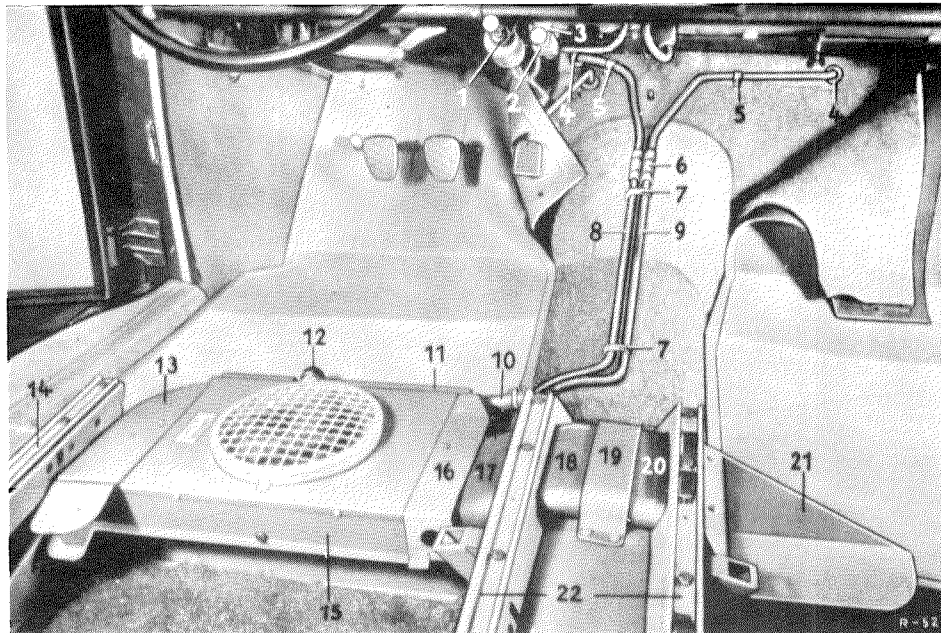

Fig. 83—10/1
To improve the heating in the rear compartment, an underseat heating system can be subsequently installed. The heater unit and blower (15) is screwed to the floor panel under the left front seat (Fig. 83—10/1).